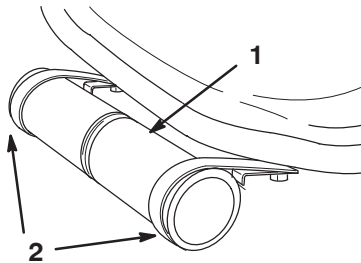

Figure 6
1. Remove manual tube and R-clamps secured to seat plate. Retain (2) mounting capscrews and flatwashers.
2. Loosely mount R-clamps to outer holes in left side of seat with (2) capscrews and flatwashers previously removed. (Fig. 6).
3. Install manual tube into R-clamps, insert manual into tube and thread cap into tube (Fig. 6). Tighten capscrews.